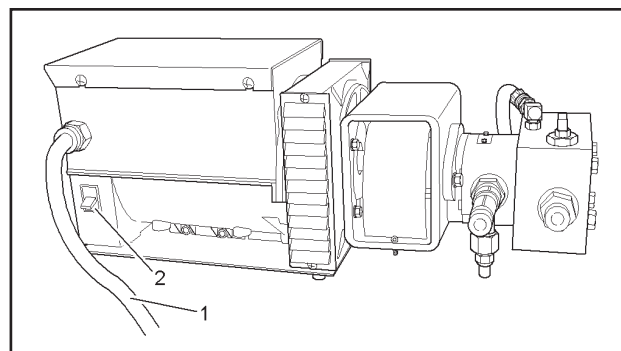

FIGURE 3-4
The entire generator is shown here (See Fig. 3-4). Note the electrical cord (1) coming out of the case of the generator at the far left. This is the cable that runs to the rear of your paver that supplies power to the screed. This cable should be inspected regularly to ensure that no damage has occurred to the cable during normal operation. Chafing, cuts, breaks, etc.
Figure 3-4 also shows the location of the main output breaker (2) in your generator. All output power from the generator is lost when this breaker is in the "tripped" or "off" position.